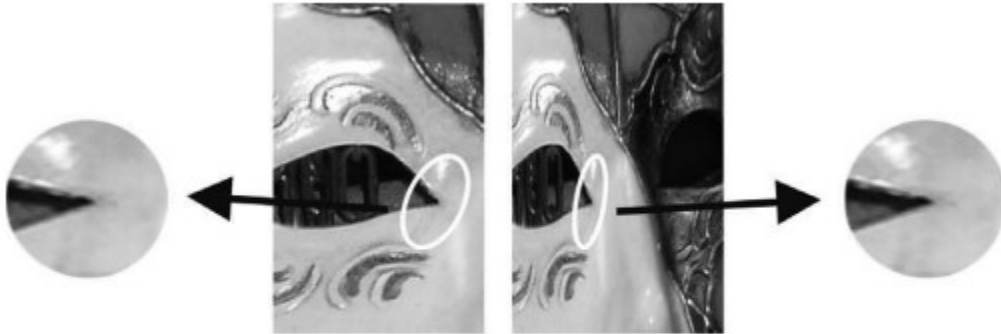

Figure 4.77 Computation of the affine invariant ellipse in two images related by an affine transformation.
- The initial detected ellipse and the resulting normalized circular shape are shown in figure 4.77